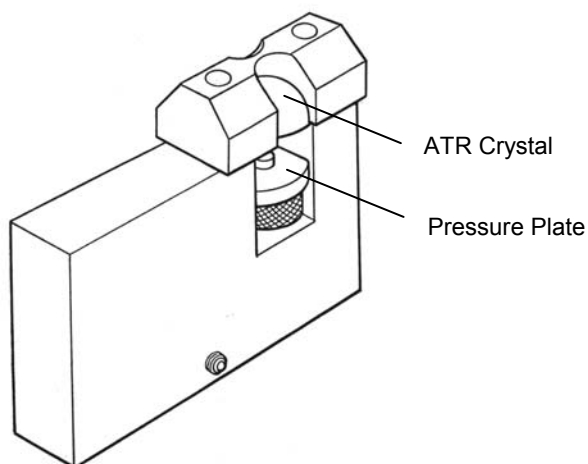

Figure 13 • ATR Sample Holder
The ATR sample holder (Figure 13) is used for ATR operation.
- Locate the pressure plate (Figure 13) on the height adjustment knob of the ATR sample holder.